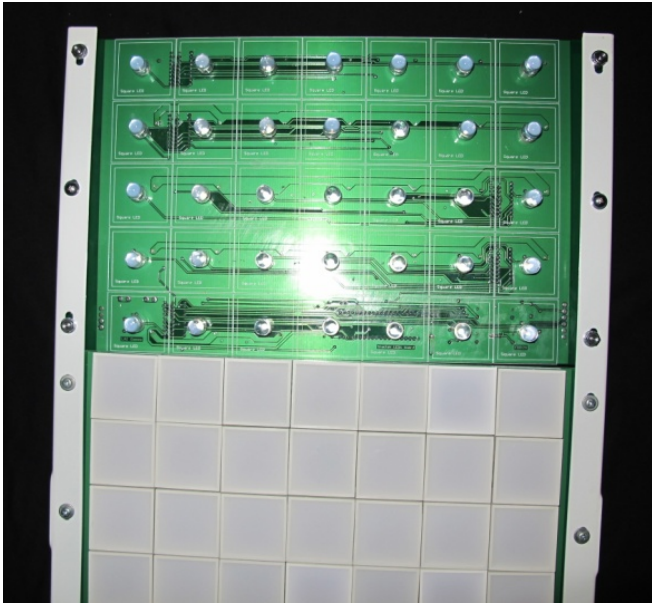

Fig. 3
Step 7: Notch the center set of holes on each panel. **See Fig. 3.** We use a nibbling tool but sharp cutters or a hack saw will suffice. The notch provides for proper alignment of the board when re-installed. It will also allow you to remove each panel individually from the game in the future if necessary. The center holes will be the only mounting hole on each panel the 4 top and bottom holes will just be sitting on the metal spacers to be installed next.
Step 8: Refer to **Fig.3 and 4** to install the 18 SPACERS, WASHERS and NUTS to the left and right mounting brackets. The middle 2 spacers on each set of boards are opposite from the top and bottom set. You can see that on the middle 2 SPACERS, the thread is facing up so that it can go through the elongated hole in the LED board.